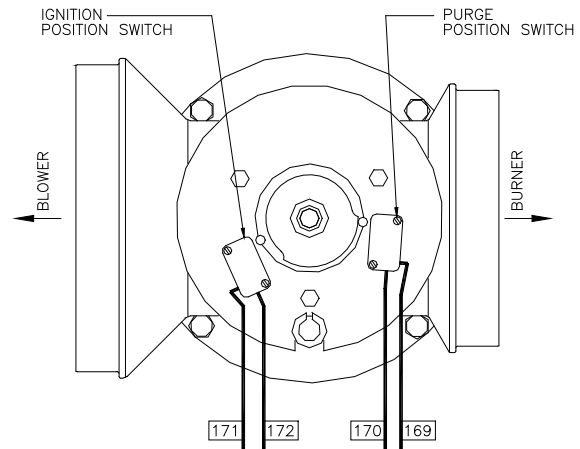

Figure 3.14
- The air/fuel valve rotates to ignition position, engaging the Ignition position switch and energizing the safety shut-off valve, (see Fig. 3.14).